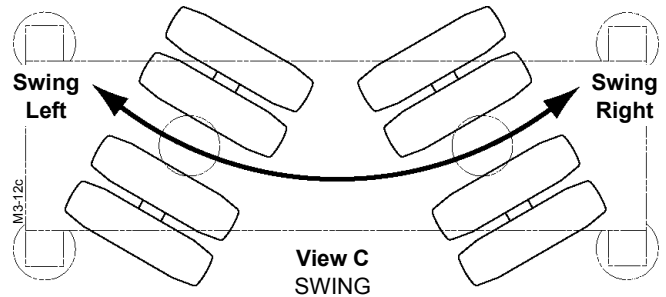

FIGURE 3-15
See Figure 3-15, View B for the following procedure.
- Rotate wheel assemblies to straight position using right crawler handle in cab. The wheels will stop automatically when they are straight. The wheel angles given in Figure 3-15 will be displayed in the Function Mode Screen (Figure 3-5).
See Figure 3-15, View C for the following procedure.